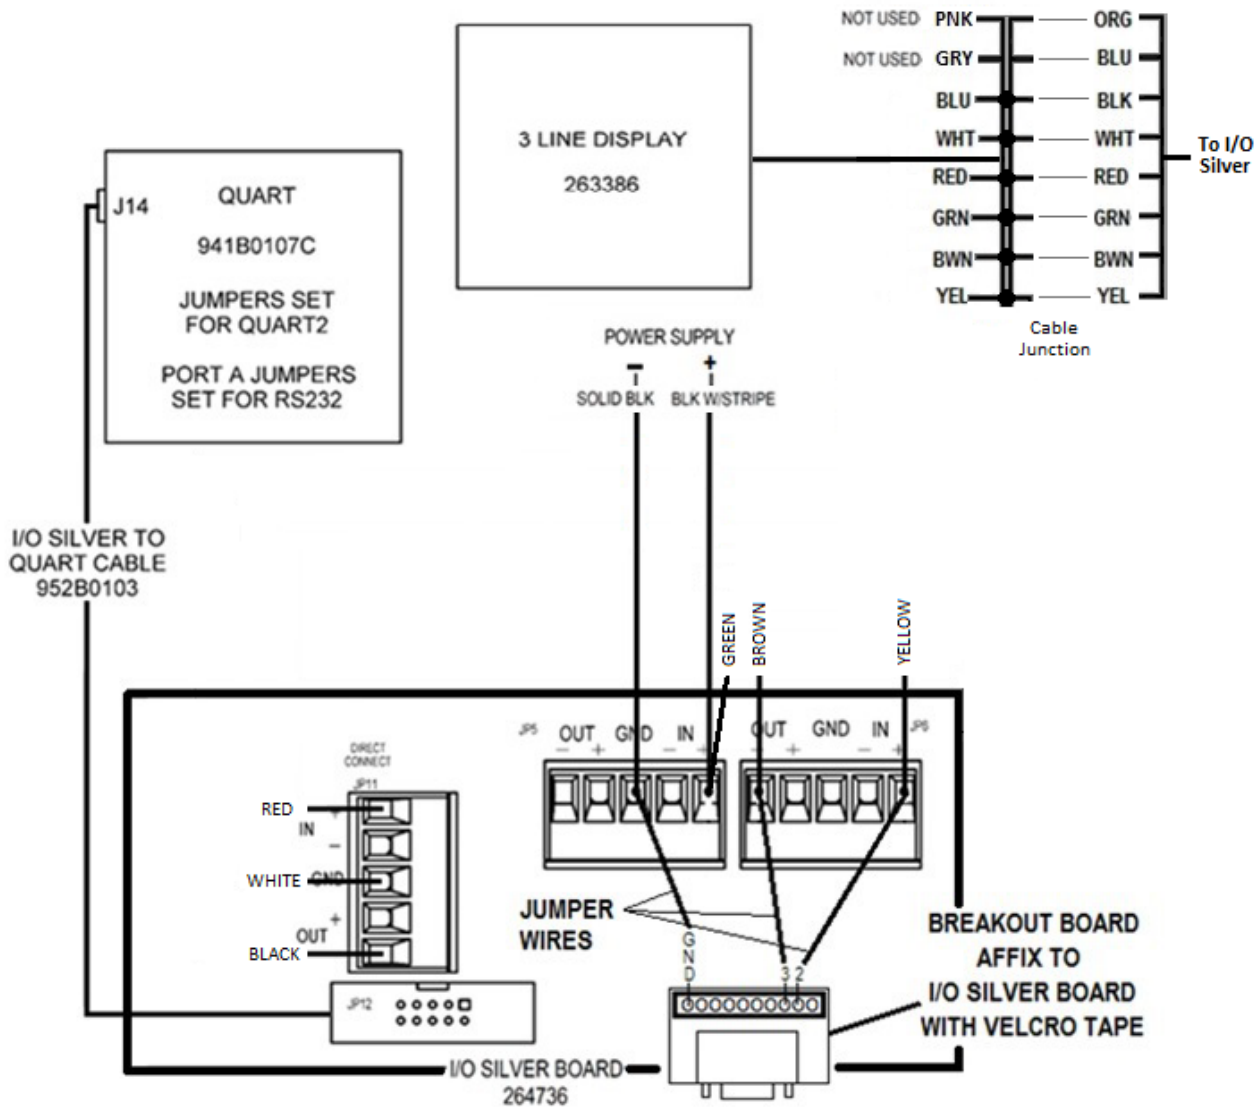

Figure 6
The display may now be connected to the new FMU components as shown in Figure 6.
3. See Figure 6. Perform the following using the 264736 I/O Silver Board provided with the install kit (the 264796 breakout board is preinstalled by Syntech and has wires into some of the same positions called out below):